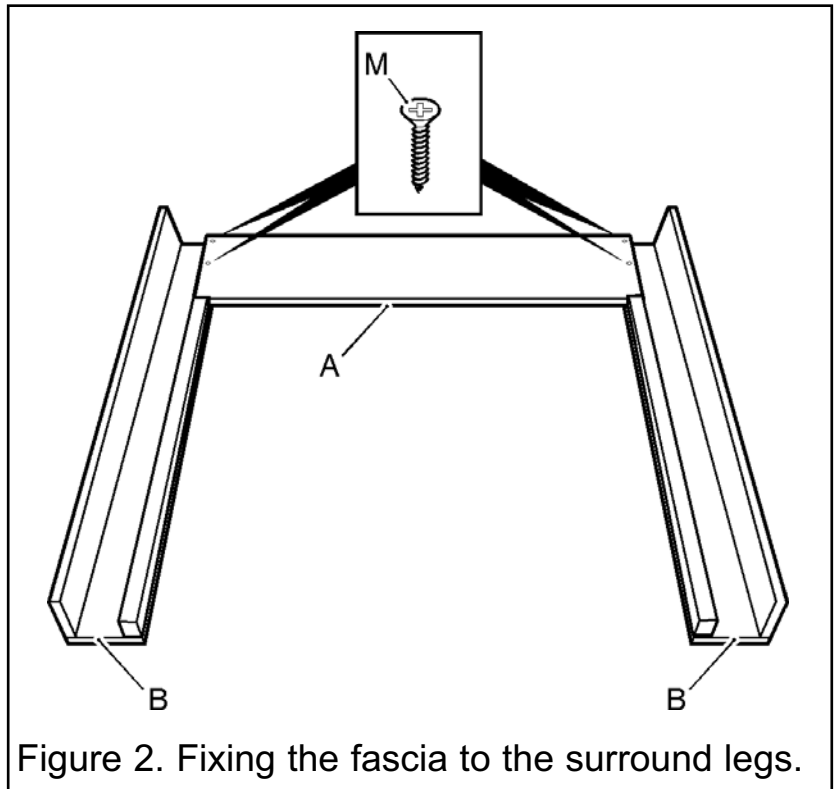

Figure 2. Fixing the fascia to the surround legs.
- Take the fascia (A) and locate it to legs (B) (See figure 2). The fascia board should be aligned with the inside edge of the inner leg strips. There are pilot holes in the legs. Secure the fascia board to the legs using four (M) screws.